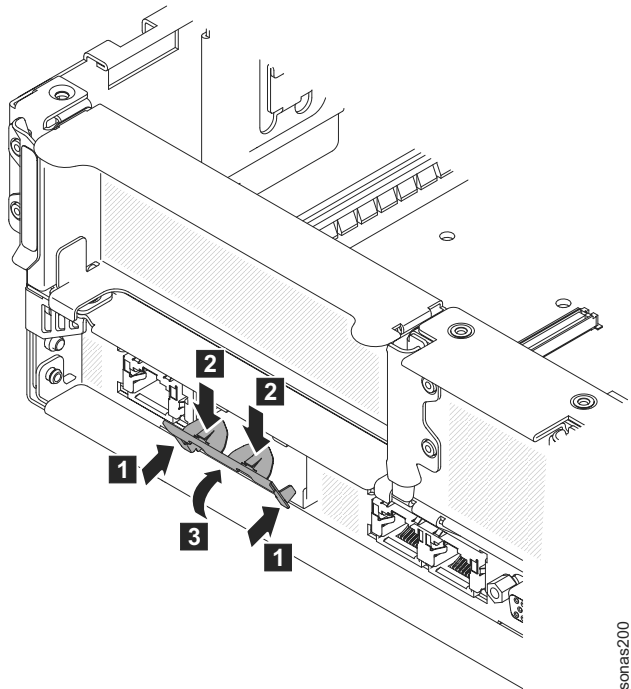

Figure 16. Location of the port openings on the chassis
7. Insert the bottom tabs of the metal clip into the port openings from outside the chassis. See Figure 16 on page 105.